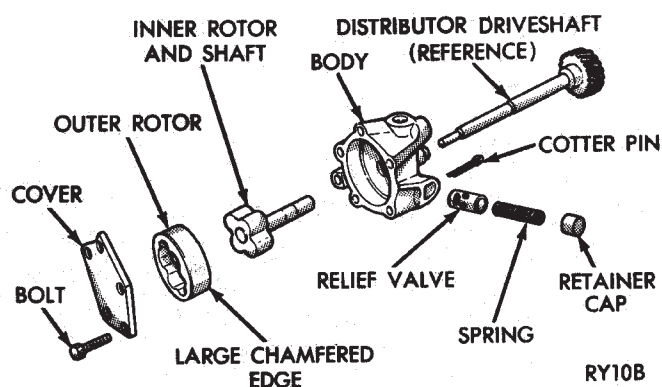

Fig. 65 Oil Pump
(2) Remove oil pump cover (Fig. 65).
(3) Remove pump outer rotor and inner rotor with shaft (Fig. 65).
(4) Wash all parts in a suitable solvent and inspect carefully for damage or wear.